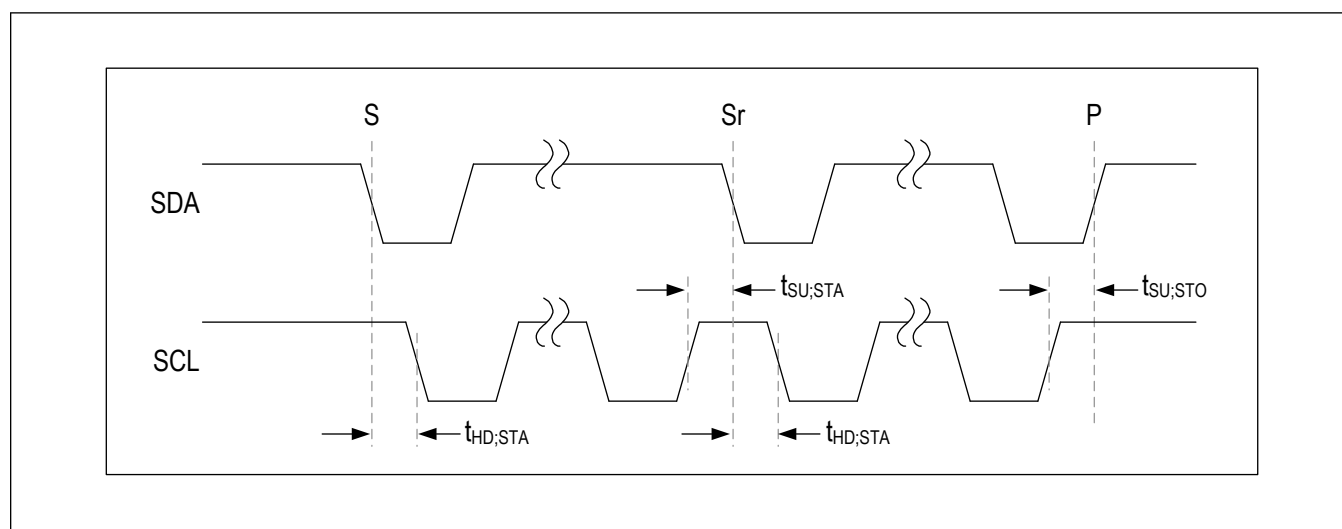

Figure 1. I2C Timing Diagram
The MAX20499C/MAX20499D features an I2C, 2-wire serial interface consisting of a serial-data line (SDA) and a serial clock line (SCL). SDA and SCL facilitate communication between the MAX20499C/MAX20499D and the master at clock rates up to 1MHz. The master, typically a microcontroller, generates SCL and initiates data transfer on the bus. Figure 1 shows the 2-wire interface timing diagram.
A master device initiates communication by issuing a START condition. A START condition is a high-to-low transition on SDA with SCL high. A STOP condition is a low-to-high transition on SDA while SCL is high (Figure 1). A START (S) condition from the master signals the beginning of a transmission to the MAX20499C/MAX20499D. The master terminates transmission and frees the bus by issuing a STOP (P) condition. The bus remains active if a REPEATED START (Sr) condition is generated instead of a STOP condition.